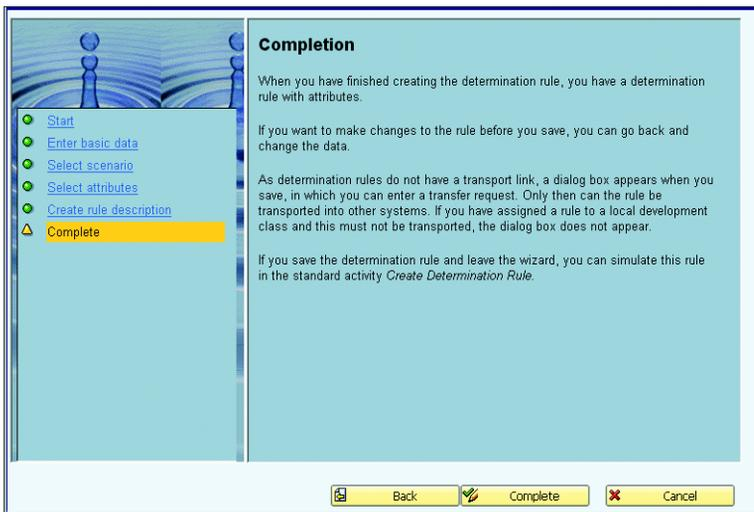

Figure 2.21 Organization Determination from Organization Model – Complete
5. Complete the rule as shown in Figure 2.21. The *rule number* will be generated after you've finished creating the rule. This rule is then assigned to the organization data profile. Click COMPLETE.